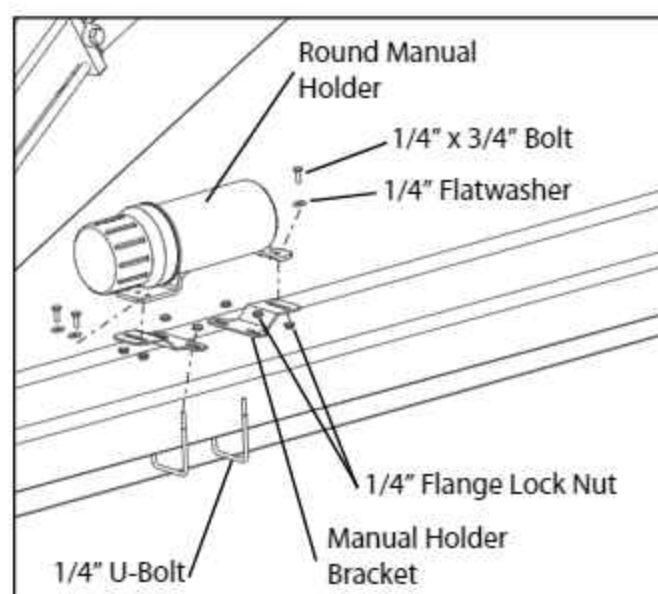

FIG. 3-24. Manual Holder Installation
11. Mount the Plastic Manual Holder on the right Axle Arm using two Manual Holder Brackets, two $\frac{1}{4}$ " U-bolts, three $\frac{1}{4}$ " x $\frac{3}{4}$ " bolts, flat washers and seven $\frac{1}{4}$ " flange lock nuts. See Fig. 3-24.